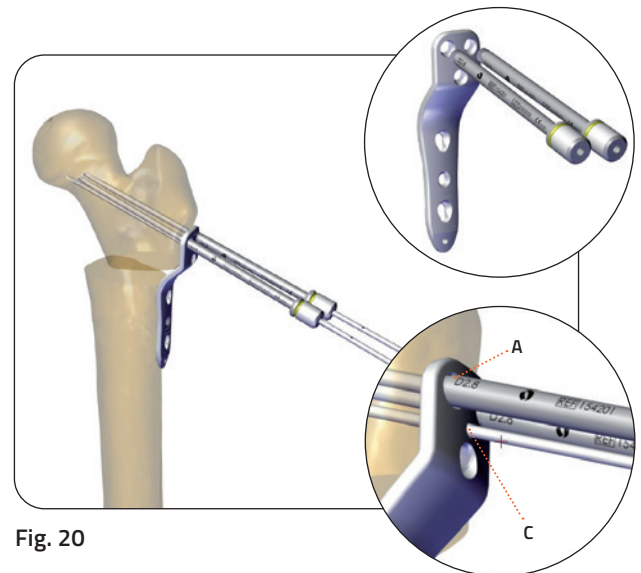

Fig. 20
Tighten the drill guides locking into the femoral neck proximal screw holes and slide the plate, through the drill guides (A), over the wires (**Fig. 20**). The distal positioning K-wire (C) must be inserted in the positioning K-wire hole in the plate.